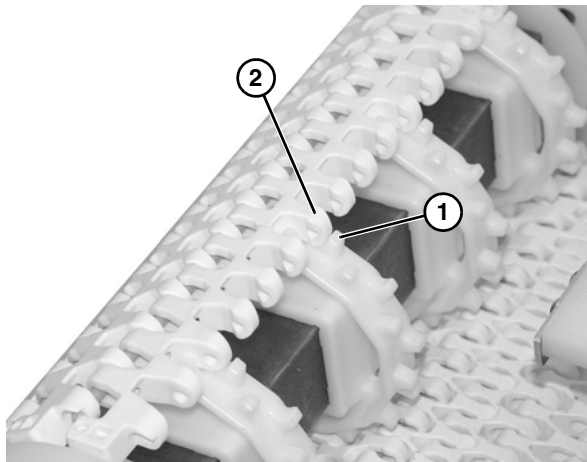

Figure 14
6. Wrap the belt around the drive end of the conveyor, making sure the sprocket teeth have engaged the belt, with concave teeth (Figure 14, item 1) mating with rounded section (Figure 14, item 2) of belt.